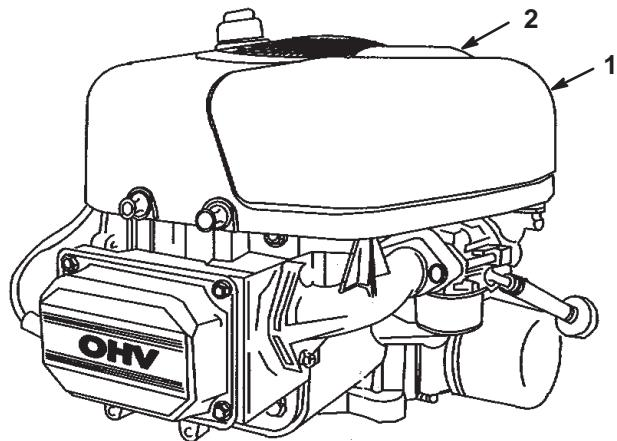

Figure 24
3. Clean around the air cleaner to prevent dirt from getting into the engine and causing damage. Pull up on the air cleaner cover handle and rotate it toward the engine (Fig. 24). Remove the air cleaner cover.